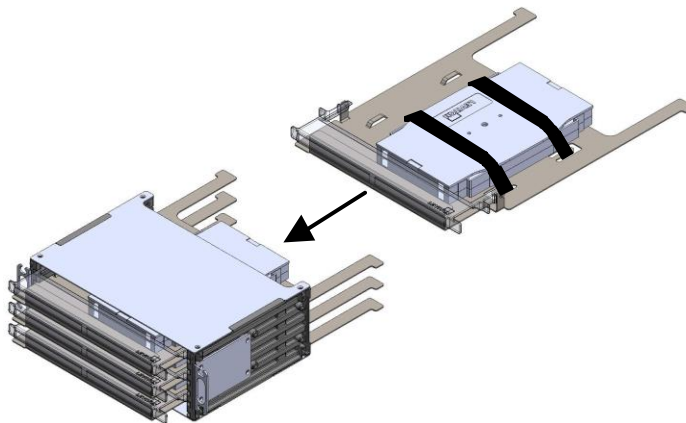

Figure 16
3. Slide each tray forward until the label window mounting tabs are accessible (Figure 16).